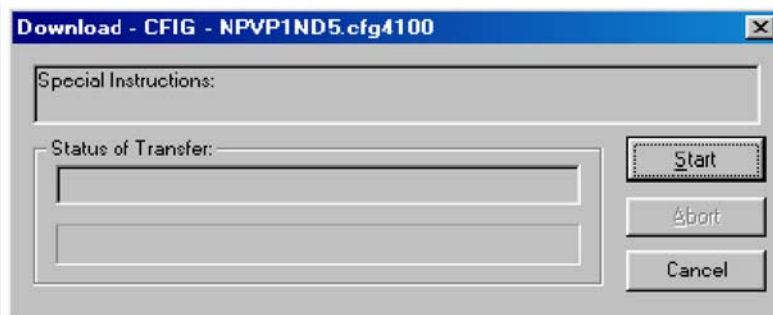

Figure 16-19. Download Start Dialog
6. Click the **Download** button. The dialog shown in Figure 16-19 appears.